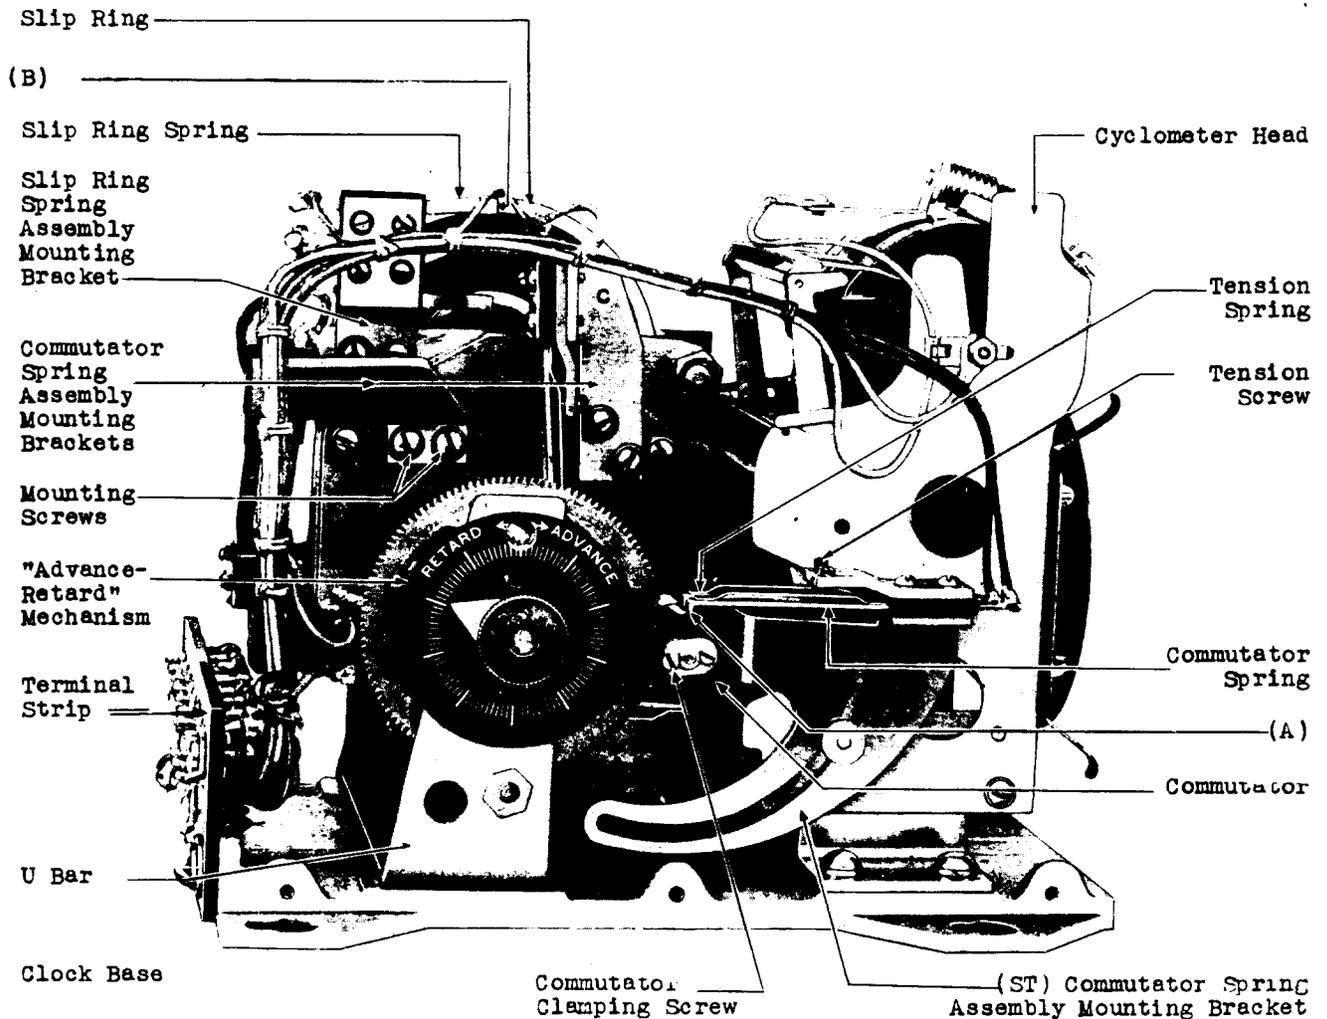

Fig. 4 - Illustrating Mounting Bracket Arrangements For Commutator Spring Assemblies
2.10 Commutator Spring Pressure - Fig. 4 (A):
2.11 Slip Ring Spring Pressure - Fig. 4 (B):